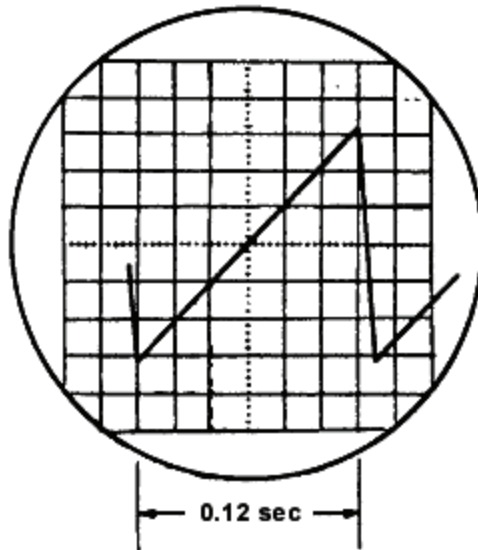

Figure 7. M1H balance adjustment.
- (3) Adjust **•VAR/MANUAL** control fully ccw.
- (4) If sweep time as displayed on oscilloscope is not 0.12 seconds (fig. 7), adjust M1H **INT BAL** (fig. 3) (R).